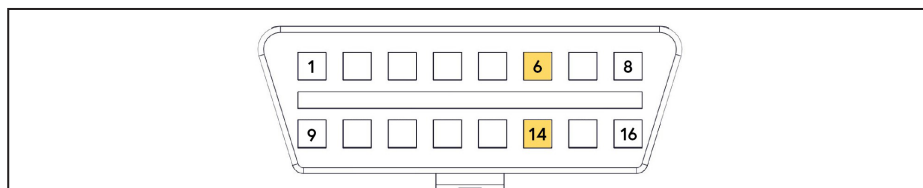

Figure 81 — OBD II connector
- ☐ Splice the light blue wire from the throttle control to the wire at pin 6 (brown wire at the time of writing) of the OBD II port (Figure 81).
- ☐ Splice the grey wire from the throttle control to the wire at pin 14 (yellow wire at the time of writing) of the OBD II port (Figure 81).